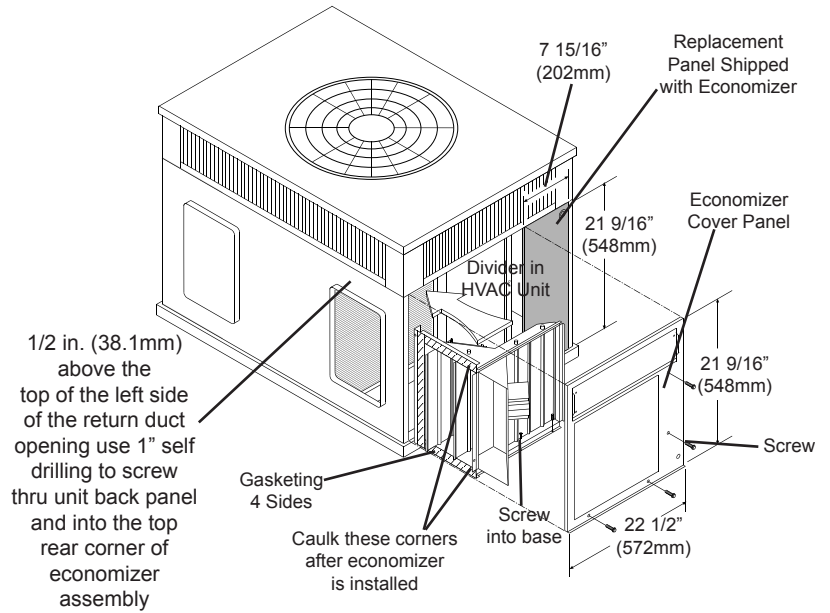
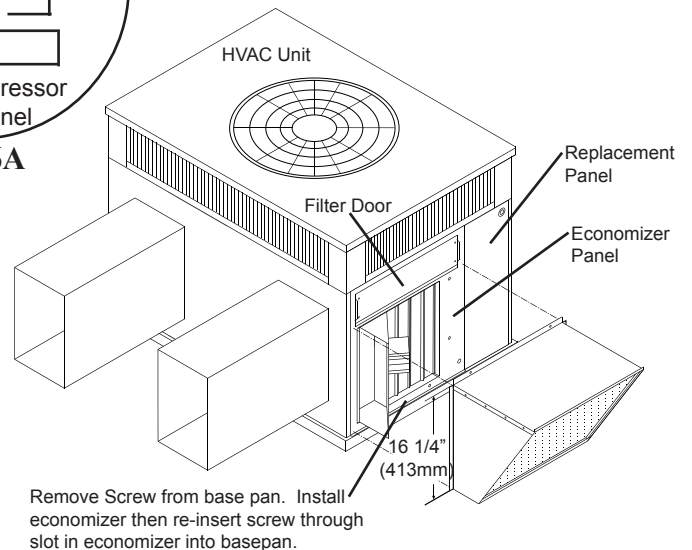

Fig. 6 - Economizer Installation
Fig. 7 - Economizer Installed in HVAC Unit
8. This step applies to units without base rails only. If the unit does not have a wrap around compressor access panel install the supplied replacement panel (Fig. 7).
9. Install the 5/8" gasketing on the duct side flanges of the economizer, see Fig. 6. Remove the right of the two screws on the lip of the basepan (Fig. 7). Turn the economizer on its side (Fig. 6.) Slide economizer into cabinet and as far to the left as possible. The economizer will set against the left side of the HVAC unit. Use the screw just removed from the basepan to screw through the slot in the bottom flange of the economizer into the basepan where the screw was removed. Caulk as required.
10. Remove filter access panel. Install the replacement return chamber panel over the economizer assembly and underneath the drip flange on the HVAC unit. Line up the bottom left hole on the panel with the hole in the bottom left of the economizer and the mating hole in the base of the HVAC unit. Insert screw, which will hold all parts in place. Insert screws on bottom right of panel as well. Install filters and then reinstall the filter access panel. See Fig. 6.
11. At a location 1/2 in. (12.7mm) above the top of the left side of the return duct opening use 1" self drilling to screw thru unit back panel and into the top rear corner of economizer assembly (Fig. 6).